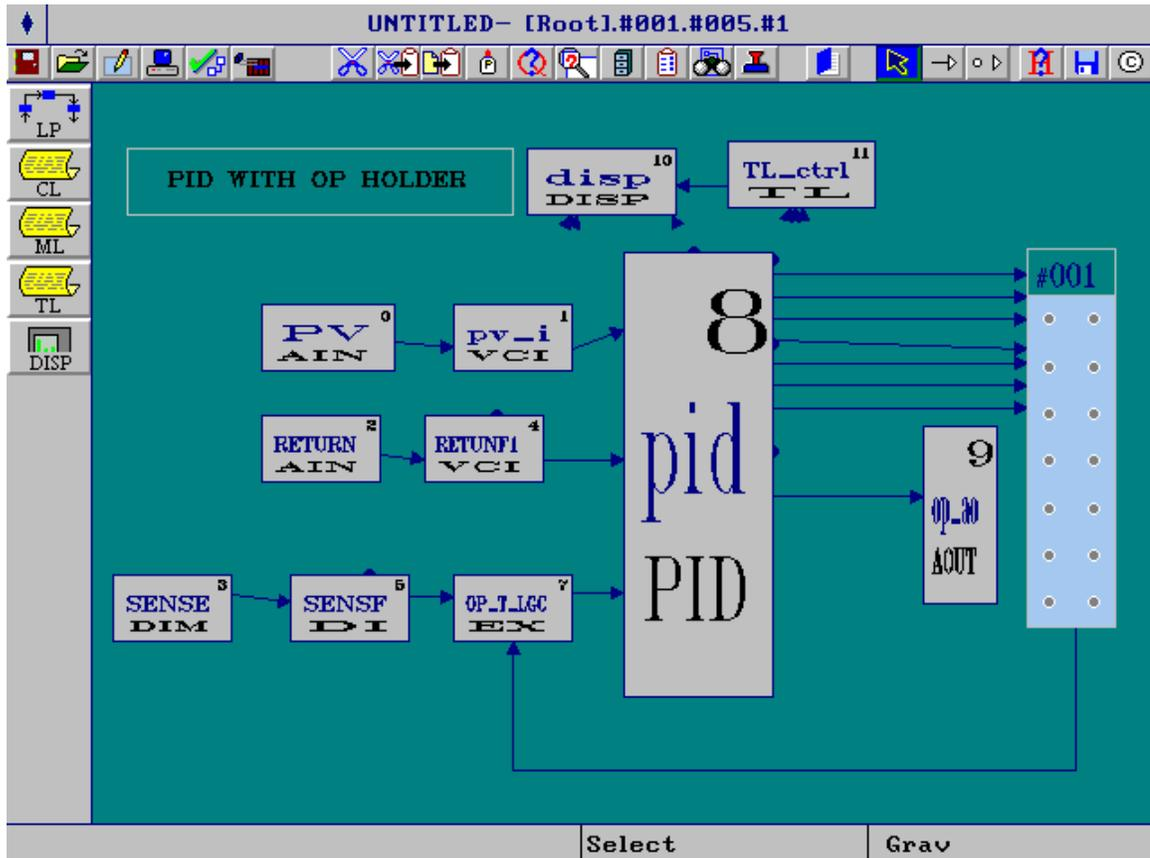

Figure 3. Output Holder Compound
Figure 3 shows a block diagram of the output holder compound strategy. This strategy contains the PID, display and I/O for one loop. When using this compound you will be required to complete a few strategy changes to make it fit your application. These changes are outlined in **Loading the Compound**.
6. Double click on the block to open it. Figure 3 shows what the output holder with PID loop strategy looks like.